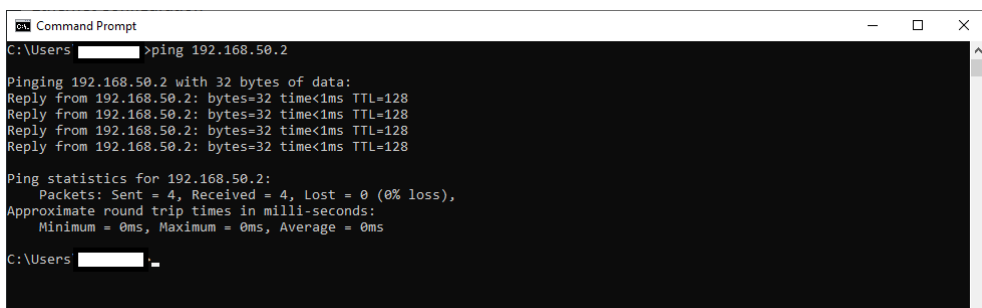

Fig. 3.19: Command prompt window with the command for testing the communication at the selected IP address.
- The user can check that the connection is established by trying to ping the board via the Command Prompt (see **Fig. 3.19**) and checking the displayed message.